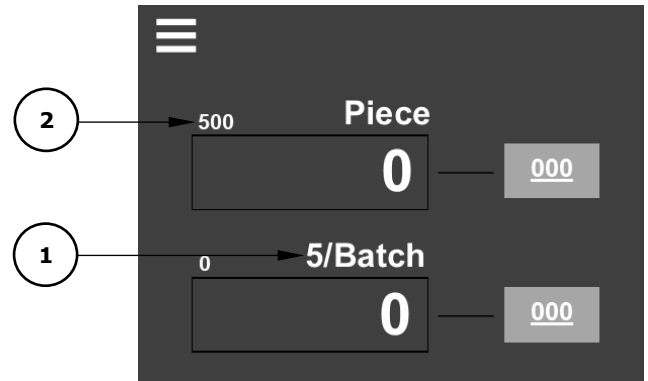

Figure 8.4.6
4. The production screen displays both the calculated batch size (1) and the automatically calculated quantity (2). See Figure 8.4.6.